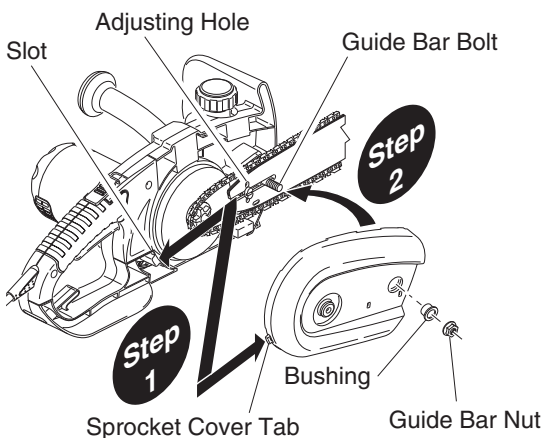

Figure 5 - Installing Sprocket Cover
5. Insert tab of sprocket cover into slot on unibody and rotate sprocket cover onto guide bar bolt until sprocket cover rests against guide bar (see Figure 5).
7. Turning chain tensioning screw, adjust position of adjustment block until it is aligned and inserted into the round adjusting hole on guide bar (see Figures 5 and 6). Turning screw counterclockwise will move adjustment block to rear of guide bar. Turning screw clockwise will move adjustment block to front of guide bar.
2. Ensure the adjustment block is in the adjusting hole on guide bar (see Figures 5 and 6).